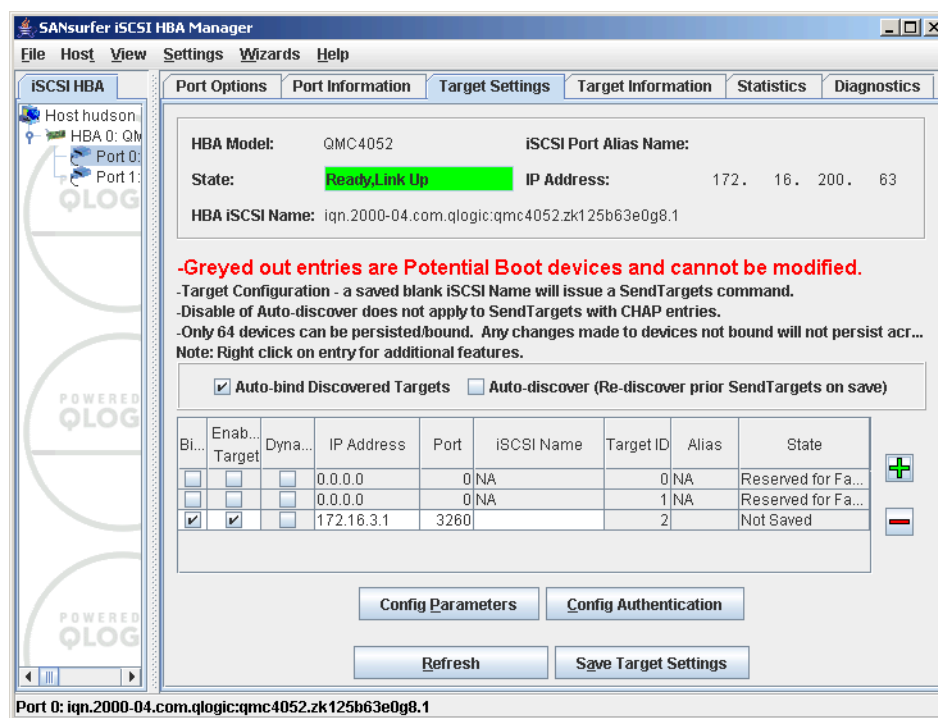

Figure 21-48 SANsurfer - Configured target
3. A target is added to the list, with the specified address, which will be used to discover the specified target and return a list of LUNs. The text Not saved in the State column for the new target indicates that this configuration modification was not yet saved. Click **Save Target Settings** to save the target settings. See Figure 21-48.